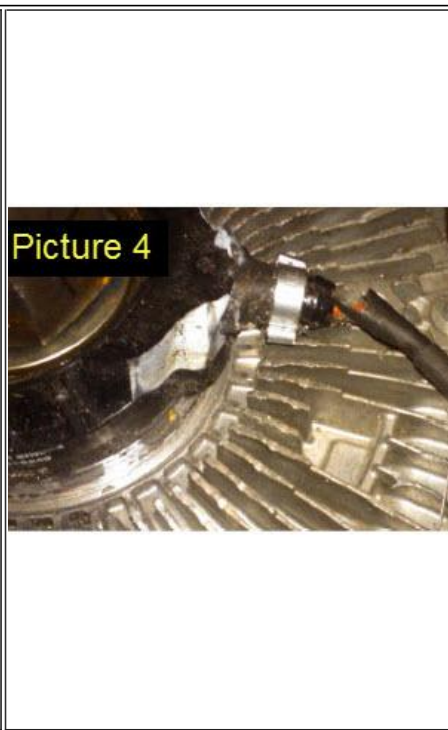

Figure 4
- An improperly positioned ARB or loose target wheel can cause the damage in *Figure 4*.